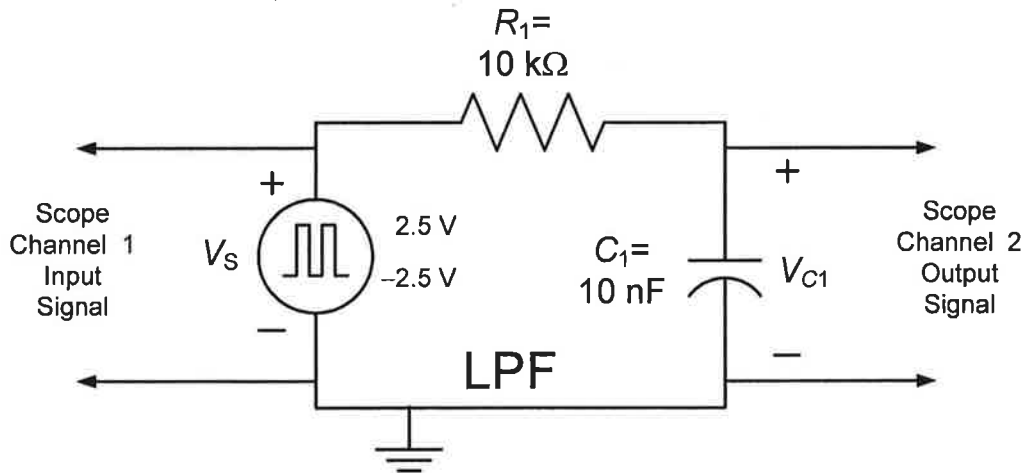
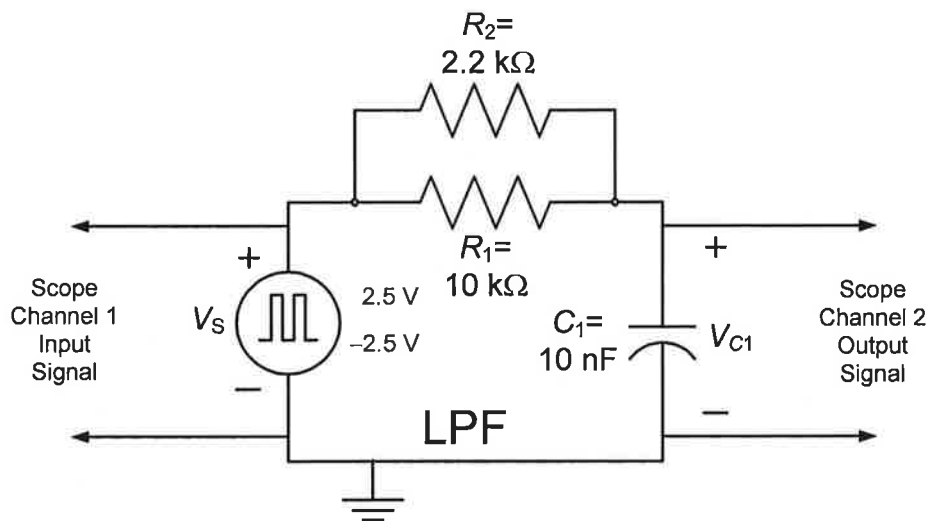

Figure 1. First-order RC circuit connected like a Low-Pass Filter (LPF).
Figure 4. First-order  $RC$  circuit connected like a Low-Pass Filter (LPF).
**Pre-lab Assignment 1.a:** A first-order capacitive circuit is excited by a periodic rectangular pulse train as shown in Fig. 1. The element values of the circuit are given by  $R_1=10\text{ k}\Omega$  and  $C_1=10\text{ nF}$  respectively. Calculate the following:
**Lab Experiment 1.a:** Construct the first-order RC circuit shown in Fig. 1 using  $R_1=10\text{ k}\Omega$  and  $C_1=10\text{ nF}$ . Using the digital LCR meter, measure and record the actual values of the resistor and the capacitor used in your circuit. Use these actual element values measured to recalculate the time constant  $\tau$  (call this time constant  $\tau_{\text{actual}}$  or  $\tau_a$ ). Use the function generator available on your bench to supply the periodic rectangular pulse train to the circuit. Set the function generator to provide the rectangular pulse train represented with source voltage  $V_s(t)$  which
**Lab Experiment 1.b:** In Fig. 1, change the source frequency to  $f = 5$  kHz and 50 kHz. Observe  $V_S(t)$  and  $V_{C1}(t)$  voltage waveforms simultaneously for each case. Sketch and label the waveforms. Based on your observations, explain what happens and why this circuit is referred to as a Low-Pass Filter (LPF).
**Pre-lab Assignment 1.d:** For the first-order  $RC$  circuit considered in Fig. 1, introduce a second resistor  $R_2 = 2.2$  kΩ in parallel with resistor  $R_1 = 10$  kΩ as shown in Fig. 4. Calculate the value of the new time constant  $\tau_{\text{pre-lab}}$  or  $\tau_p$  for this circuit and the approximate time it takes for the capacitor to fully charge or discharge.
**Lab Experiment 1.d:** For the first-order  $RC$  circuit shown in Fig. 4, measure and record the actual value of the  $2.2\text{ k}\Omega$  resistor using the digital  $LCR$  meter. Recalculate the actual time constant  $\tau_a$  using the actual element values measured. Set the source frequency to  $500\text{ Hz}$ . Set-up the oscilloscope connections so that both  $V_S(t)$  and  $V_{C1}(t)$  waveforms appear on the screen simultaneously. Sketch and label the waveforms.